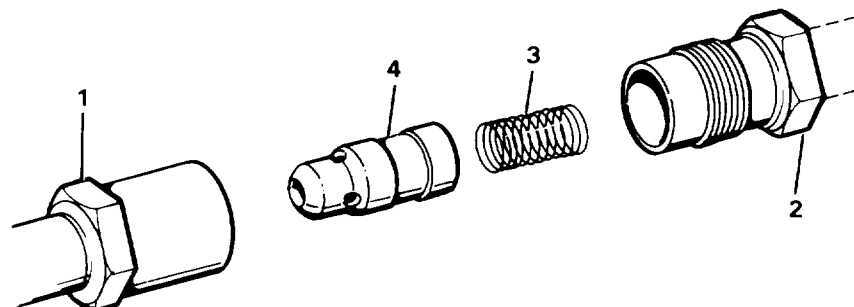

Figure 4-12. Cleaning of Check Valves
- b. Unscrew valve cap (1, Figure 4-12) from valve body (2) to remove spring (3) and seat (4).
- c. Clean any debris from check valve body (2), spring (3) and valve seat (4). Flush components with soap and water solution, rinse thoroughly and dry.
- d. Install seat (4) and spring (3) into body (2). Thread hex collars (1) onto body (2) and connect tubing or piping.